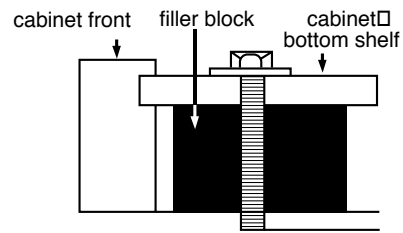

Figure 23
**NOTE:** If the bottom of the upper cabinet is recessed 3/4" or more, you will need 2"x2" filler blocks (not included) to provide additional support for the bolts. See Figure 23.